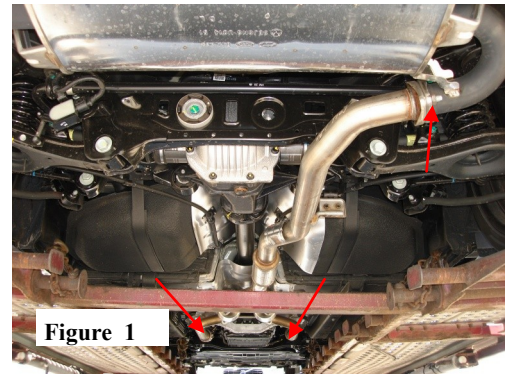

Figure 1
1. Unbolt the flange located behind the catalytic converter. Place the hardware to the side for use during the installation of your new exhaust system. (See Fig. 1)